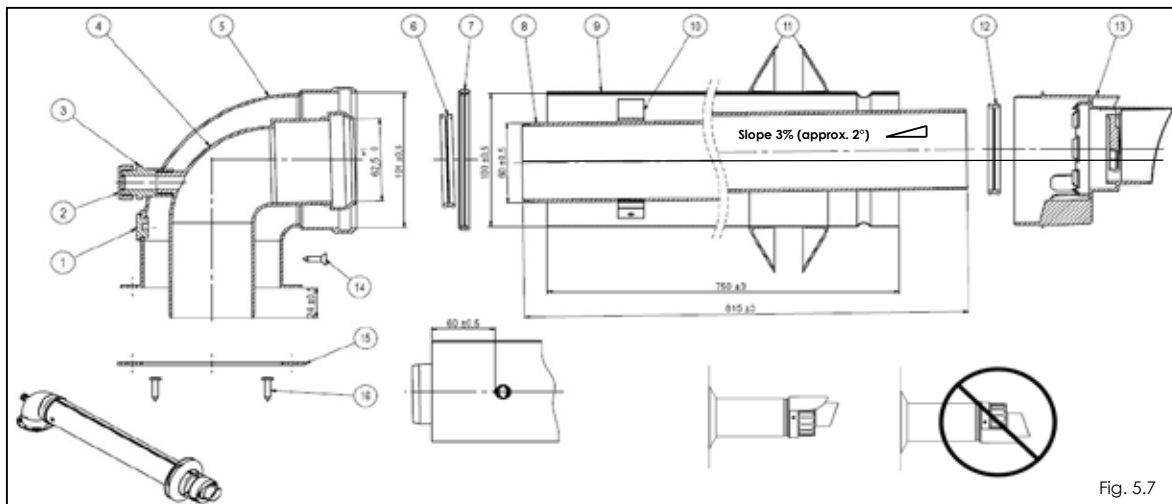

Fig. 5.7
5.7.1 Use of coaxial condensation kit (plastic inner tube) -fig.5.7
The coaxial intake-exhaust kit, fig.5.7 is delivered together with the boiler. The exhaust is made through a tube with a diameter of Ø60 mm, coaxial with the air intake tube with a diameter of Ø100 mm.
- at the mounting position of the terminal, it must be similar to the one in figure 5.7. Mounting it in another position can lead to the accumulation of water from precipitation in the combustion chamber of the boiler.